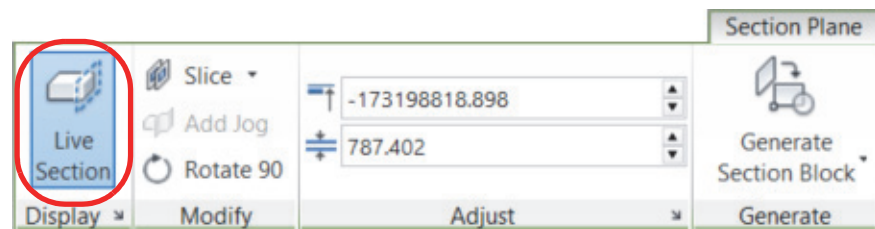

Figure 9–17
1. In the model, select the point cloud section line. In the contextual *Section Plane* tab>Display panel, verify that **Live Section** is toggled on, as shown in Figure 9–17.